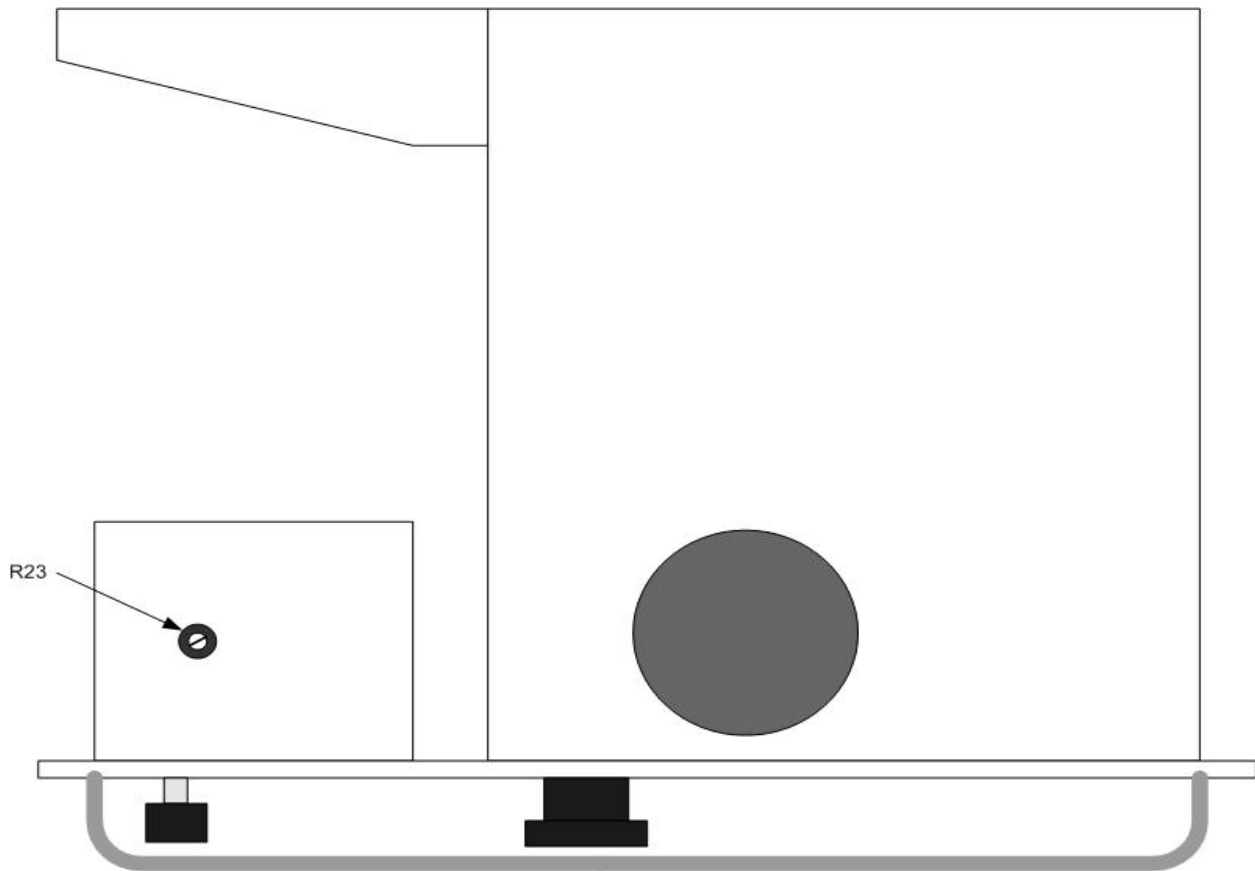
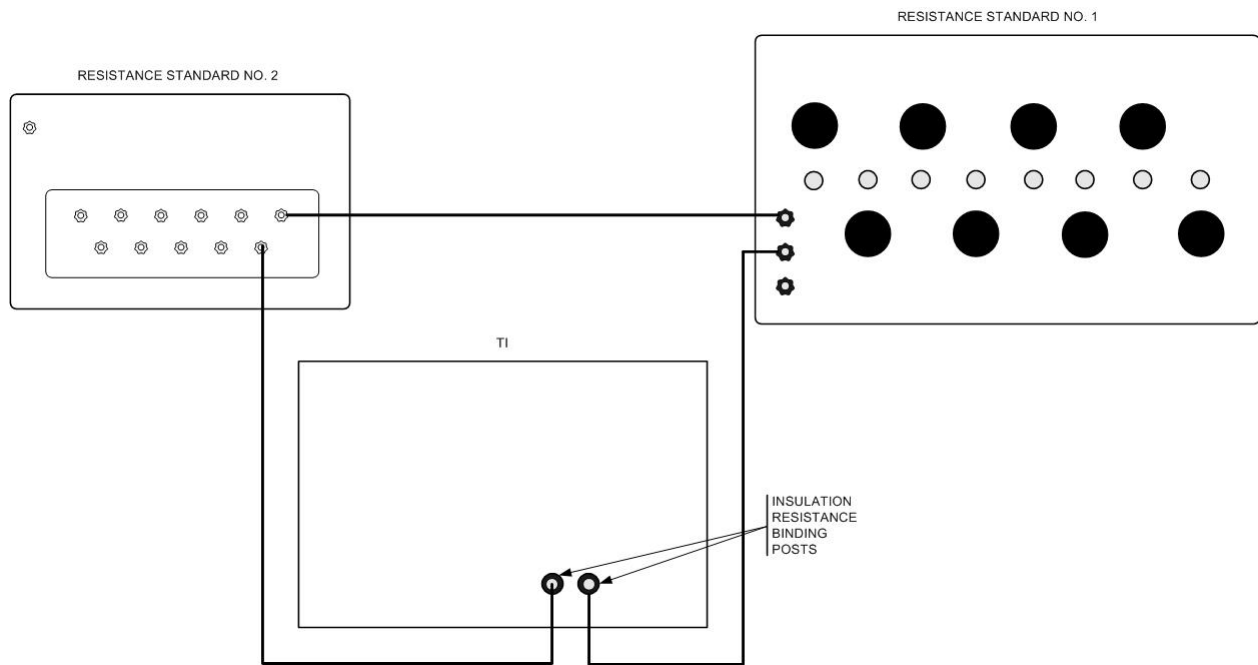

Figure 1. Left-side - adjustment location.
Figure 3. Insulation resistance - equipment setup.
- d. Position controls as listed in (1) through (3) below:
- (1) **110V-220V** switch (rear of chassis) to **110V**.
- (2) **SELECTOR** switch to **INSULATION RESISTANCE**.
- (3) **POWER** switch to **ON**.
- f. Meter on TI should indicate between 10 V and 10 mA scale markings. If not, remove dust cover and adjust R23 (fig. 1) for meter indication midway between 10 V and 10 mA scale markings.
- (1) Set **SELECTOR** switch to **INSULATION RESISTANCE** and megohm range switch to **MEGOHMS X1**.
- (2) Remove dust cover from TI.
- (3) Adjust R23 (fig. 1) for 10 mA indication on TI meter.
- (4) Turn **DIAL CONTROL** fully ccw and operate **KEY** switch. Indication on TI meter will remain at 10 mA.
- (5) Set **SELECTOR** switch to **LEAKAGE**.
- (6) Connect equipment as shown in figure 3.